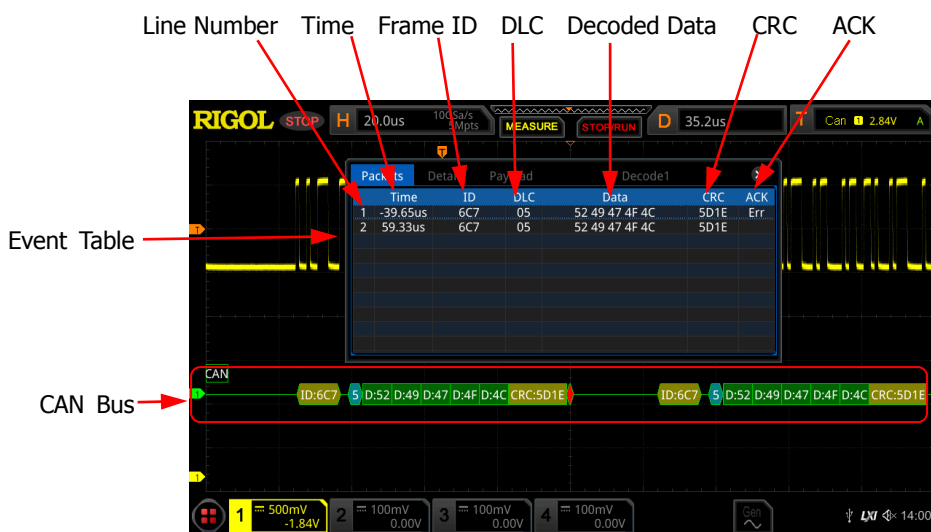

Figure 11-11 CAN Decoding Event Table
- Open or close the event table: Click **Event Table** continuously to enable or disable the event table. When you enable the event table, the following figure is displayed, as shown in Figure 11-11. You can also click on the icon  at the upper-right corner of the table to close the event table. Besides, when the operating status is "STOP", you can select a specified line and view the corresponding decoding information.